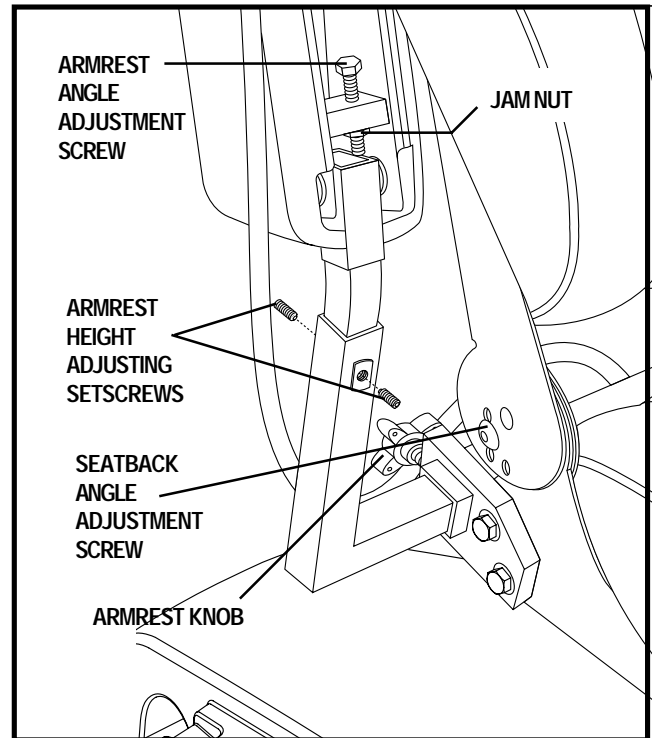

Figure 16. Seatback and Armrest Adjustments
If your power chair is equipped with an adjustable seatback, you can adjust it to four (4) different angles: 90°, 102°, 105°, or 107°. See figure 16.
1. Locate the two armrest knobs on each side of the armrest receiver bracket. See figure 16.
2. Loosen the jam nut. See figure 16.
3. Loosen the armrest angle adjustment screw. See figure 16.